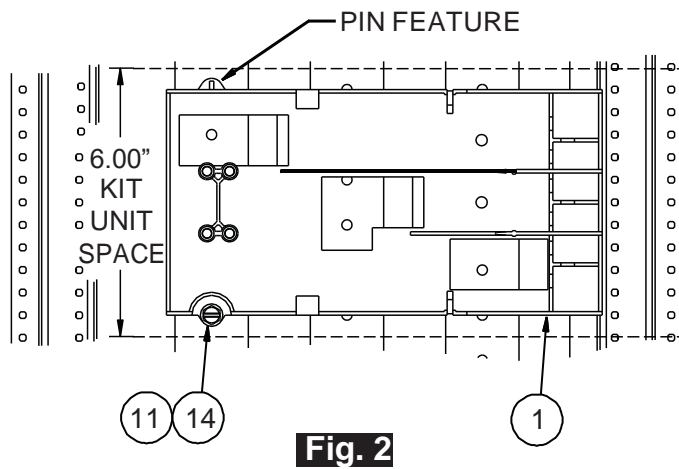

Fig. 2
5. Locate the Top Barrier (Item 1) vertically centered within the 6" unit space, using the pin feature on the back of the Top Barrier. Then fasten it to the bus with the 1/4"-20 x 1/2" screw (Item 11) for single-lamination phase bus or the 1/4"-20 x 1" screw (Item 14) for double-lamination phase bus. Do not tighten at this time. (Refer to Fig. 2)